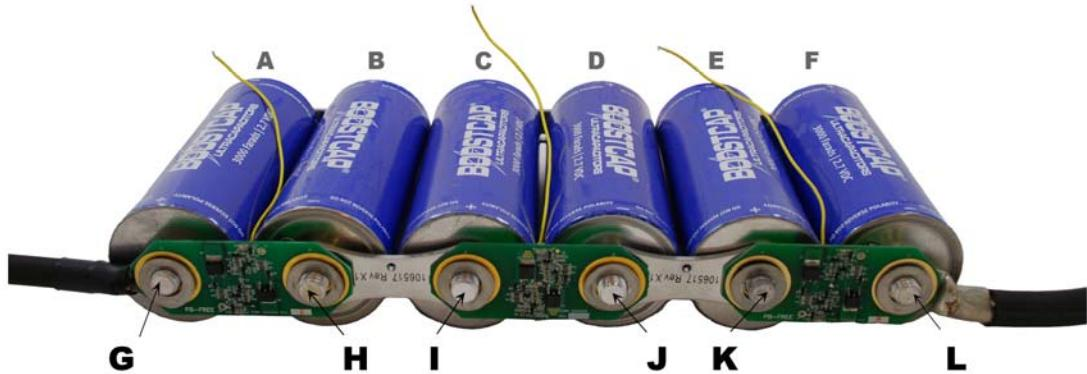

Figure 10
3.2.9 Place a wave washer over each threaded terminal on top of voltage management boards. (G – L, Figure 10)